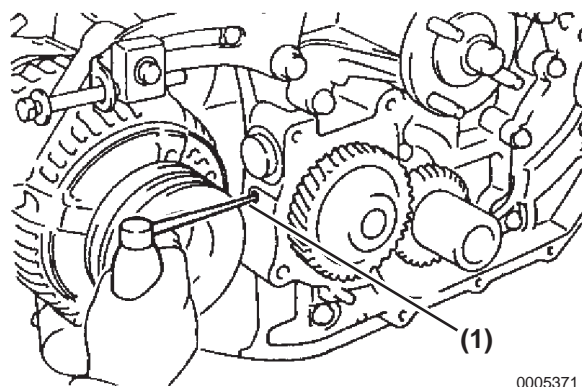

Figure 8-19
8. Remove the taper screw plug using a 5 mm hexagon wrench and pour in approximately 10 cc (0.3 oz) of engine oil into the oil pump (**Figure 8-19, (1)**).